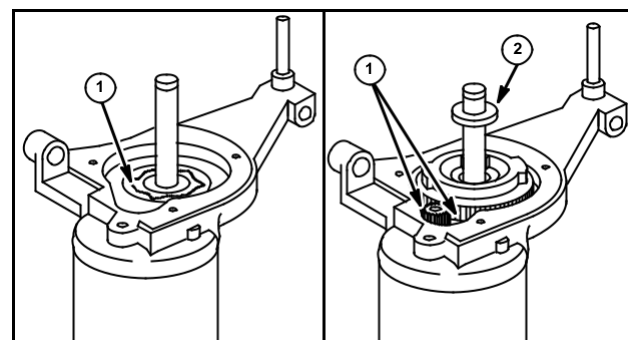

Fig. 39
11. Add approximately 3/4 ounce (22 ml) of high temperature gear lubricant under large gear and on gear teeth (1), Fig. 39.
13. Install washer, gasket and cover, Fig. 39 (System 3,4).